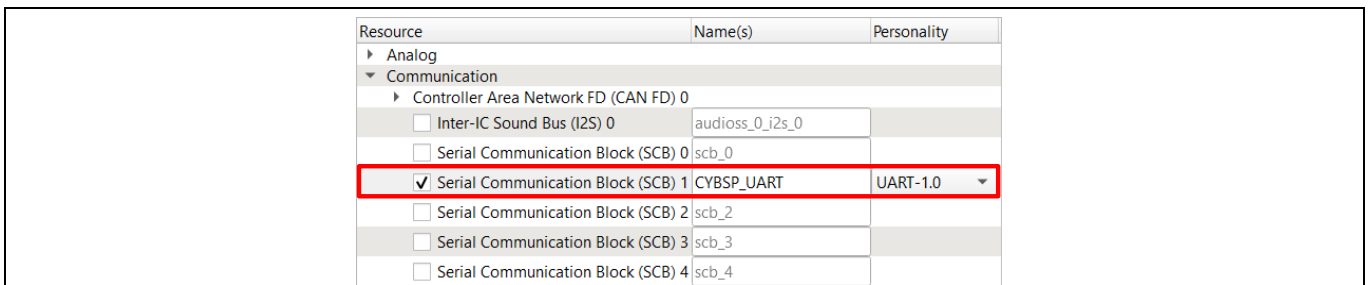

Figure 21 Enabling SCB as UART
- Go to the Peripherals tab in Resource Categories pane and enable Serial Communication Block (SCB) 1, set personality as UART-1.0 and the name as CYBSP_UART. In **Figure 21** SCB instance 1 is selected based on Rx/Tx pin required for the kit. See the device datasheet for the pins available for each instance.